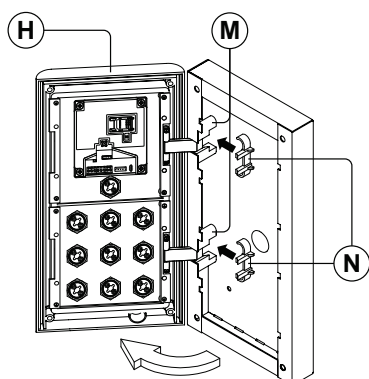

Fig. 60
7. Next open the module support frame **(H)** and clip the hinge locks **(N)** to the hinge mounts **(M)**, following the guide arrows, as shown in **Fig.60**;